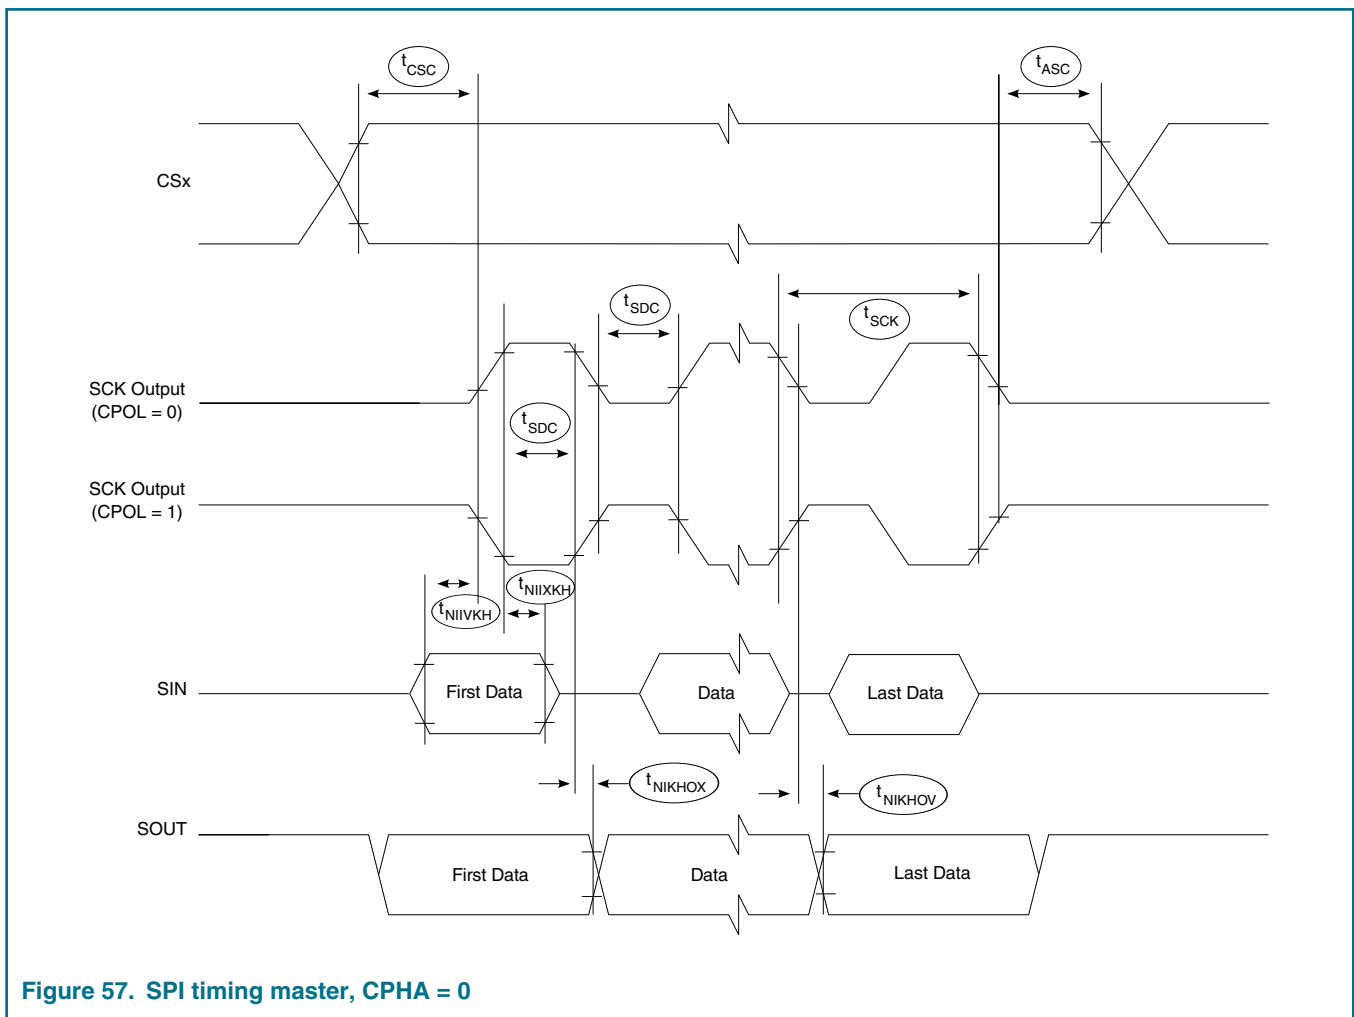
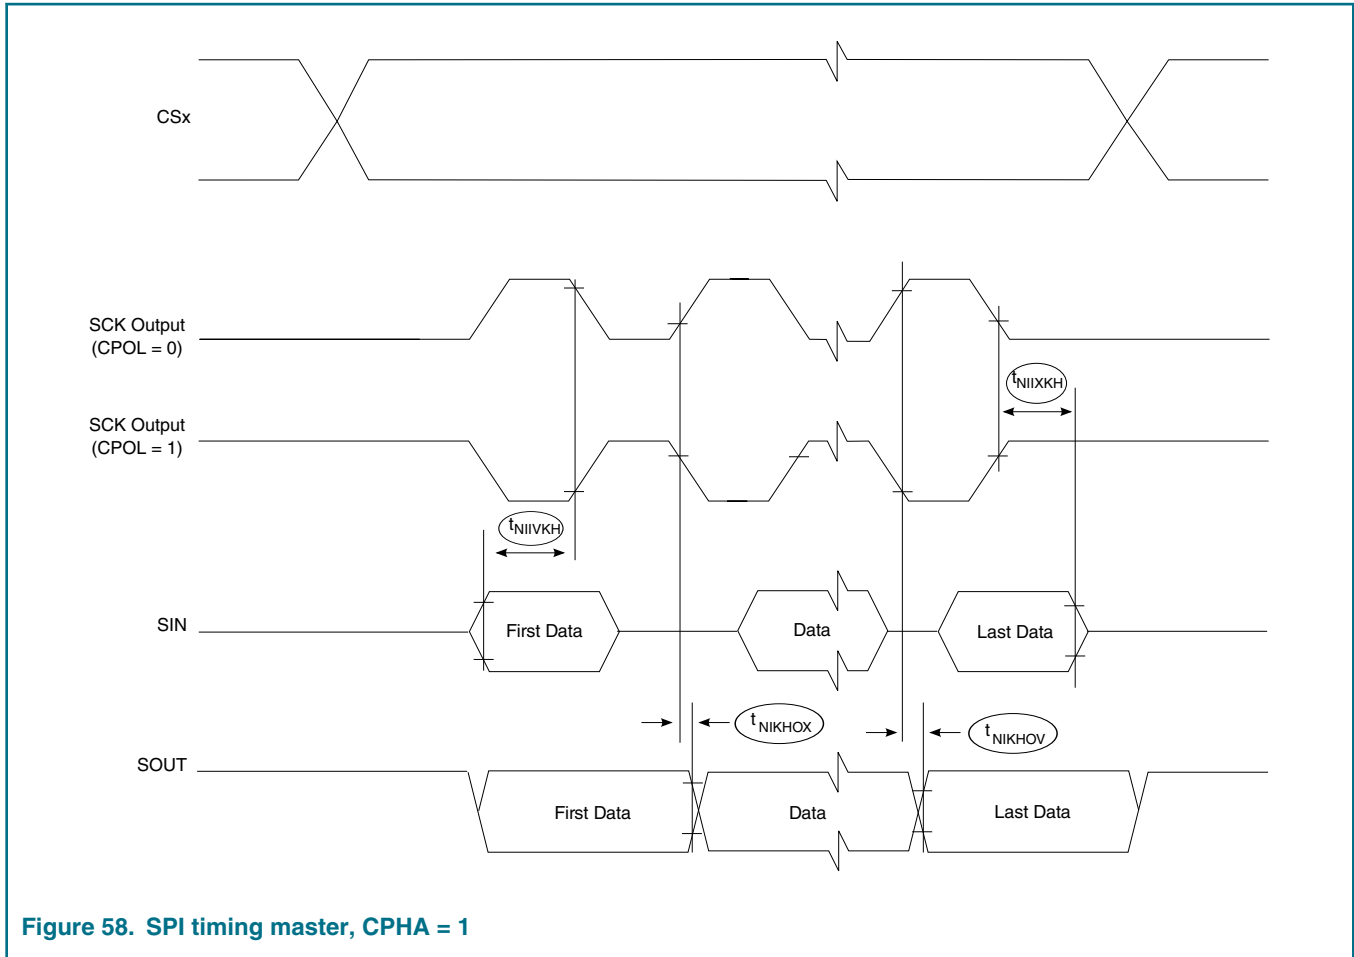

Figure 57. SPI timing master, CPHA = 0
Figure 58. SPI timing master, CPHA = 1
1. Master mode 2. Refer the CTARx register in QorIQ LS1028ARM for more details 3. t_p is the input clock period for the SPI controller. 4. Slave mode 5. See Figure 57. on page 159. 6. See Figure 58. on page 160. 7. See Figure 59. on page 161. 8. See Figure 60. on page 162.